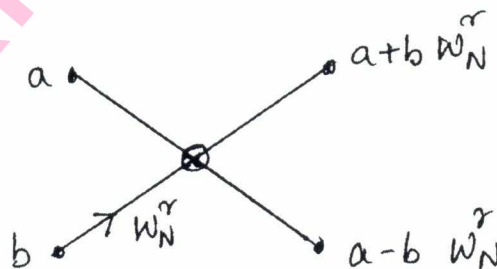

Fig.Q3(b)
- b. Find the 8-point DFT of the sequence, $x(n) = \{1, 2, 3, 4, 4, 3, 2, 1\}$. Using DIT-FFT radix-2 algorithm. The basic computational block known as the butterfly should be as shown in Fig. Q3(b). (12 Marks)